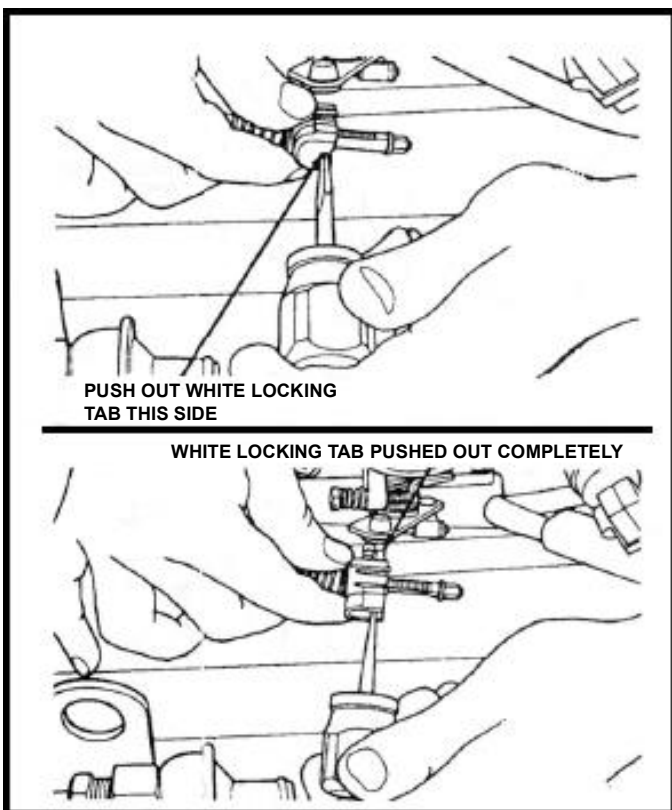

FIGURE 14
6.4 Check to ensure plastic block with pin and tab slides freely on notched rod. If it does not slide freely, the white tab may not be pushed out far enough. (See Figs. 14 & 15).